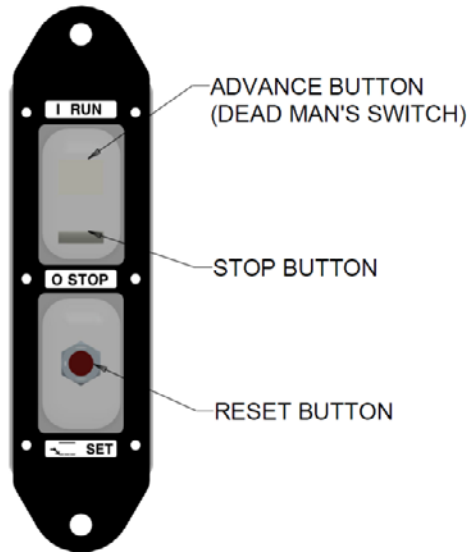

Figure 12 Control Pendant (Electric Pump)
2. Turn the pump “on” using the pumps remote control, press and hold the advance switch (or button on air pumps). (See Figure 12)